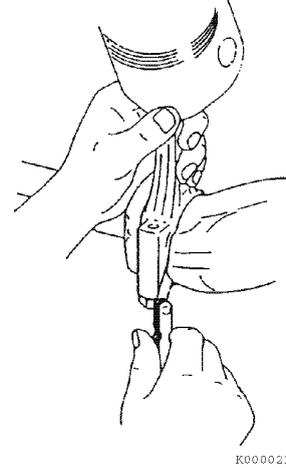

Figure 6-57
- Using a feeler gauge, measure the connecting rod side clearance as shown (**Figure 6-57**). See *Connecting Rod* on page 6-14 for the standard limit. If the measurement is out of specification, replace the crankshaft, connecting rod, or both.